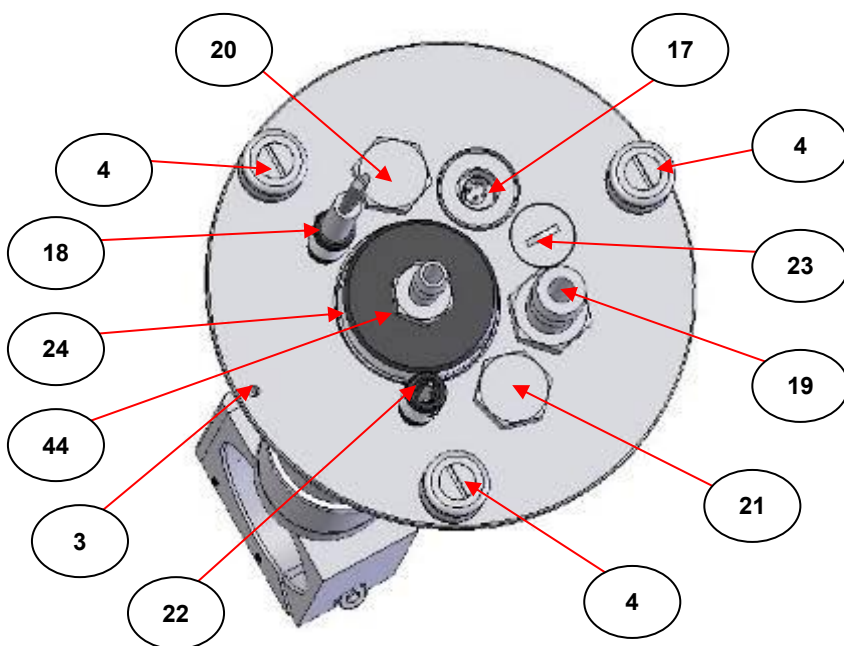

Fig 6. Dewar Assembly Top Pressure Plate Port Configuration
At the top of the dewar/cell/cuvette holder assembly is a circular plate which carries various connections for vacuum, power cables, thermocouples and liquid delivery tubing. (See **Fig 6.**) There are seven port/connections through the cell holder/refrigerant chamber top plate.
The main off-center circular area of the top plate is the access hole to the dewar assembly refrigerant chamber itself (24). (Figs 6 and 8. show the dewar stopper bung part (44) in position covering the chamber.)